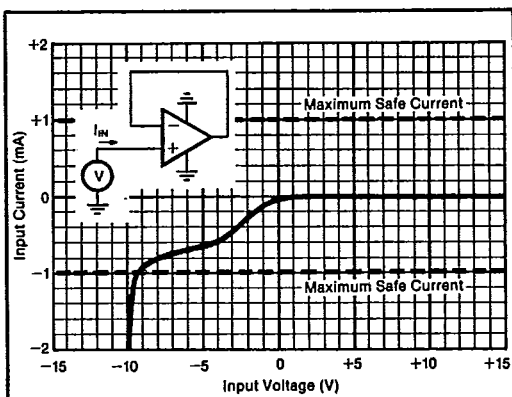

FIGURE 2. Input Current vs Input Voltage with $\pm V_{CC}$ Pins Grounded.
- (1) Packages must be derated based on $\theta_{JA} = 30^\circ\text{C/W}$ or $\theta_{JA} = 120^\circ\text{C/W}$.
- (2) For supply voltages less than $\pm 18\text{VDC}$ the absolute maximum input voltage is equal to: $18\text{V} > V_{IN} > -V_{CC} - 8\text{V}$. See Figure 2.
- (3) Short circuit may be to power supply common only. Rating applies to +25°C ambient. Observe dissipation limit and T_J .
Unlike BIFET® amplifiers, the *Difer*® OPA404 requires input current limiting resistors only if its input voltage can exceed $-8V$. A $10k\Omega$ series resistor will limit the input current to a safe value with up to $\pm 15V$ input levels even if both supply voltages are lost. (See Figure 2 and Absolute Maximum Ratings).